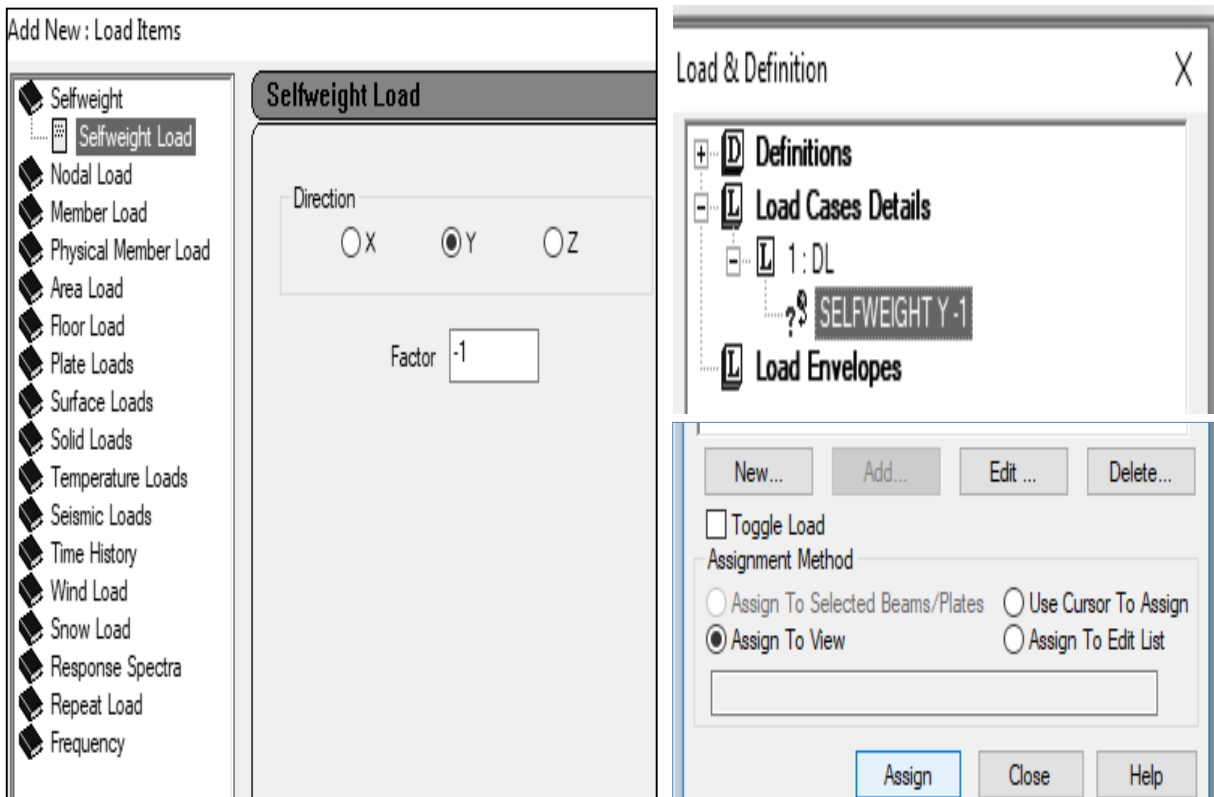

Fig: 3.8
- DL → Add → Self weight → Direction = Y, Factor = -1 → Add → Close. Then SELFWEIGHT Y-1 → Assign To View → Assign → Yes. (Fig: 3.8)